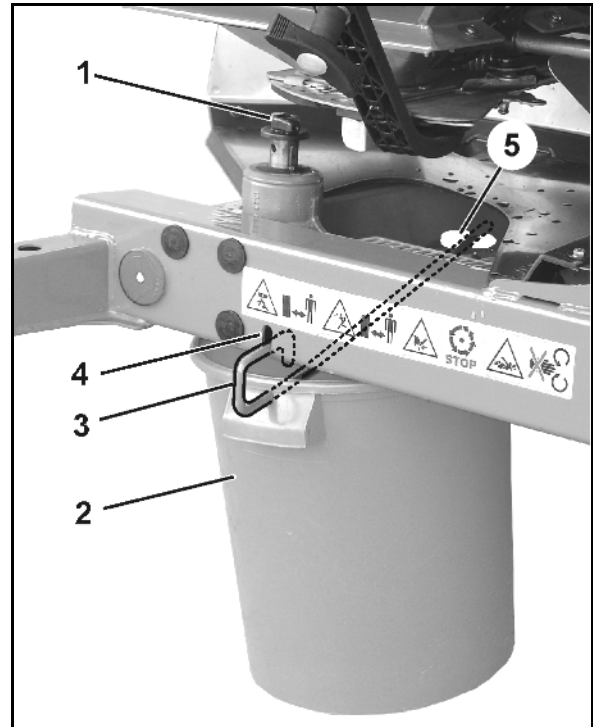

Fig. 64
- 2.1 Unscrew the thumb bolt (Fig. 64/1) securing the spreader disc and remove the spreader disc from the gearbox shaft.
3. Hook the collection bucket (Fig. 64/2) using the brackets (Fig. 64/3) into the supports (Fig. 64/4 and Fig. 64/5) on the frame.